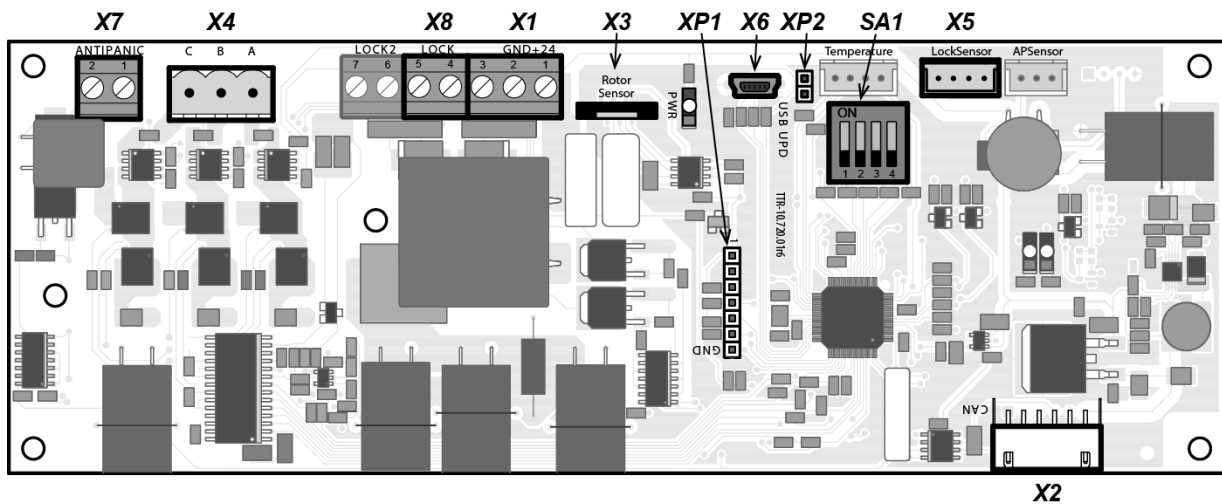

Figure 6. Control board
All units of the turnstile mechanism are connected to the control board with internal wiring. Turnstile power supply is connected to it with an external cable as well. Connection is made in accordance with the wiring diagram (Fig. 16). The overview of the control board (11) is shown in Fig. 6.